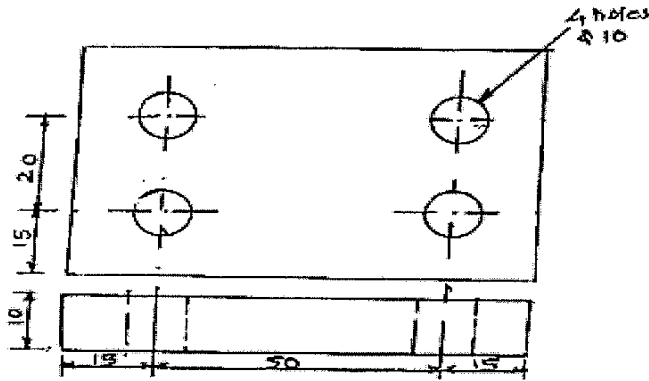

Fig. No. 2(All dimension are in MM)
b) Write a CNC program in G and M code for a part as shown in fig No.2. Also write a remark for each block. [12]